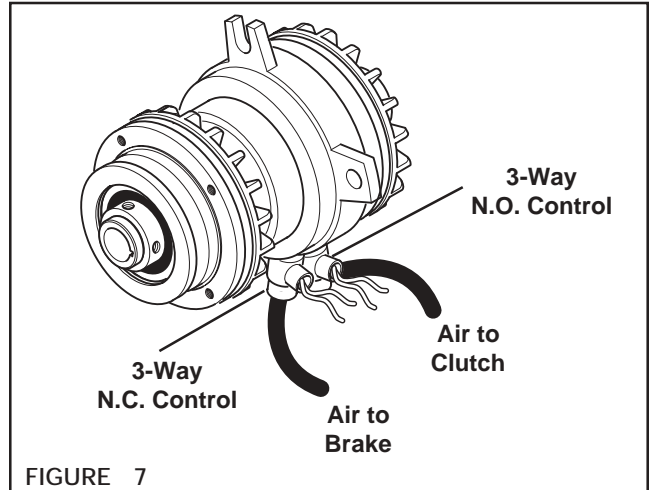

FIGURE 7
1. Connect a 3-Way N.O. Control into the brake inlet port and a 3-Way N.C. Control into the clutch inlet port (See Figure 7).
2. Connect an air supply line to the inlet port (marked IN) on the top of the 3-Way N.O. Control and an air supply line to the inlet port (marked IN) on the side of the 3-Way N.C. Control (See Figure 7).